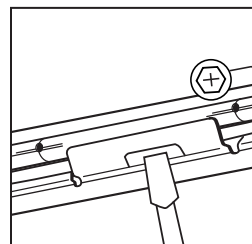

Figure 5
Step 2. Slide fixture along bar hangers into desired location. Use locking screws or slot to secure (Fig. 5).